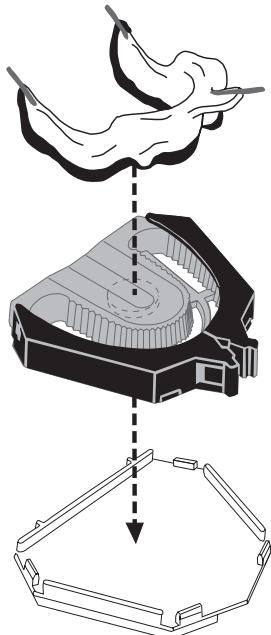

Fig. 1
5. Align the 3 reference marks of the impression tray to the midline and posterior reference marks of Accu-Trac (Fig. 1).